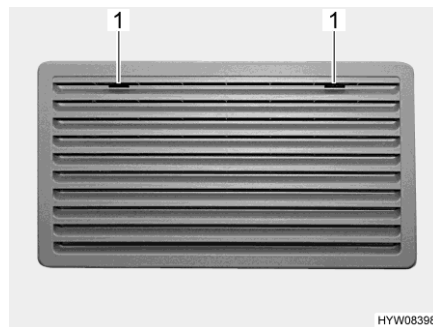
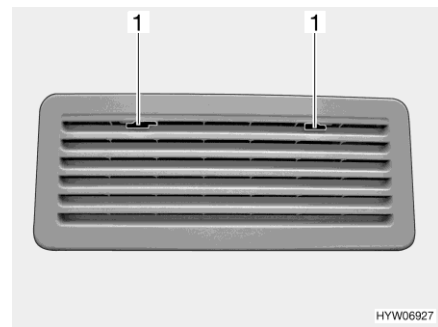

Fig. 146 Refrigerator ventilation grill (Thetford large)
Fig. 147 Refrigerator ventilation grill (Thetford small)
- Move the locking device (Fig. 146,1 or Fig. 147,1) to the middle.